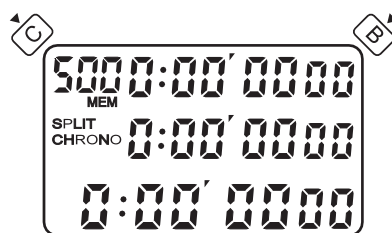

Fig. 2
The display as shown in Fig. 2. Press B to start.
- Pressing and hold B button when the stopwatch is displaying the RACE RECORDS will clear the memories in that race record ( when the contents in this race record are cleared the display will show CLEARED and sounds a long beep, if B is released before ED appears the memories will not be cleared ) and continuously holding B button after this will clear the memories of all races (display will show ALL CLEARED and display will return to as shown in Fig.2. Memories are available for storage when they are cleared.